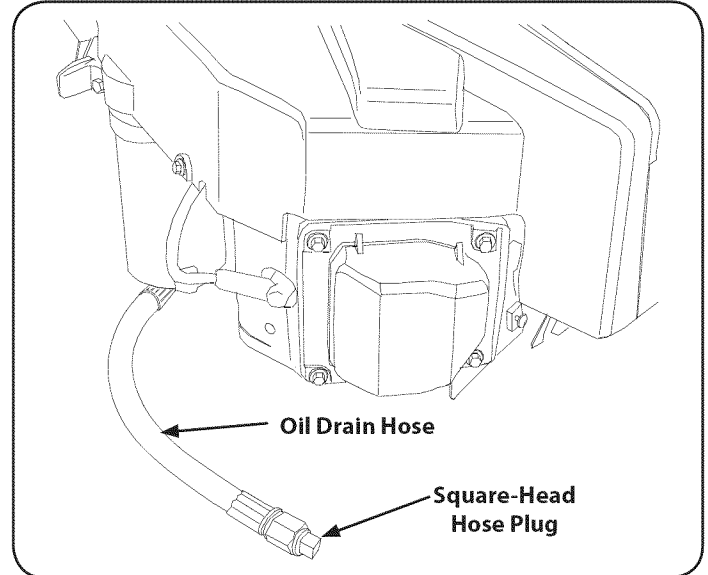

Figure 23
2. Locate the oil drain hose on the engine. See Figure 23.